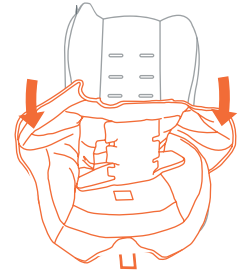

Fig. 40b
2. Pull up and out on seat fabric and feed harness, buckle tongues and chest clip through slots on seat fabric (Fig. 40b).